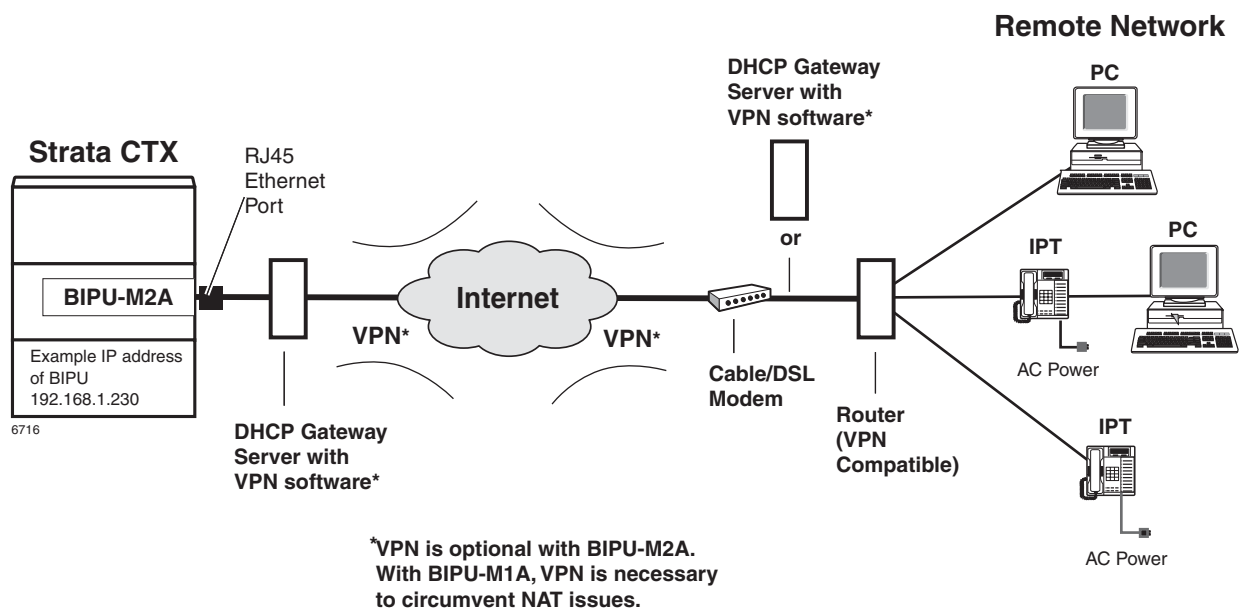

Figure 9-9 IP-CTX Virtual Private Network Connections (Example)
- Third party Virtual Private Network (VPN) software residing on DHCP gateway server. To connect IPTs over the Internet, using third party or Microsoft VPN software residing on a DHCP gateway server (see Figure 9-9.)